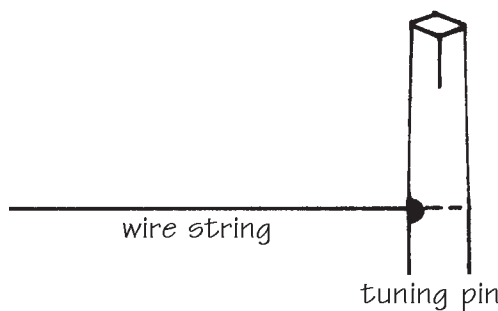

FIG. 5
- ___5. Put the wire into the pin so that the end just shows through the other side of the pin. (fig. 5)